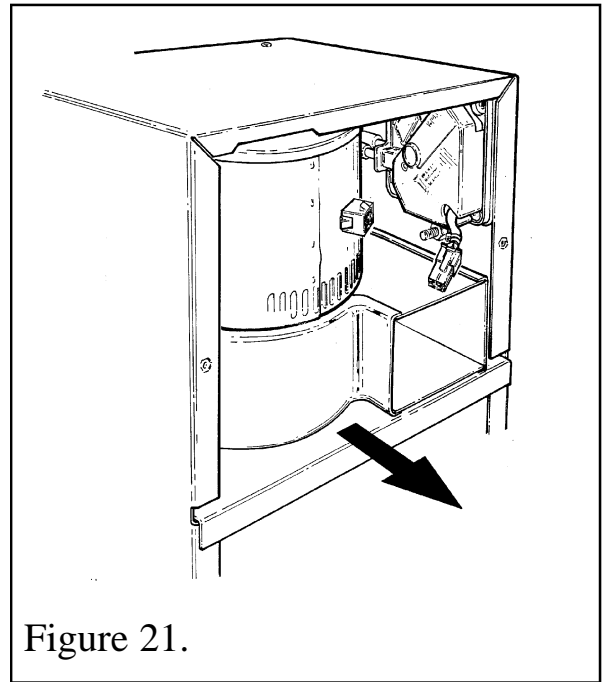

Figure 21.
1. Remove the 2 cover retaining screws and withdraw the fan unit (See figure 21).